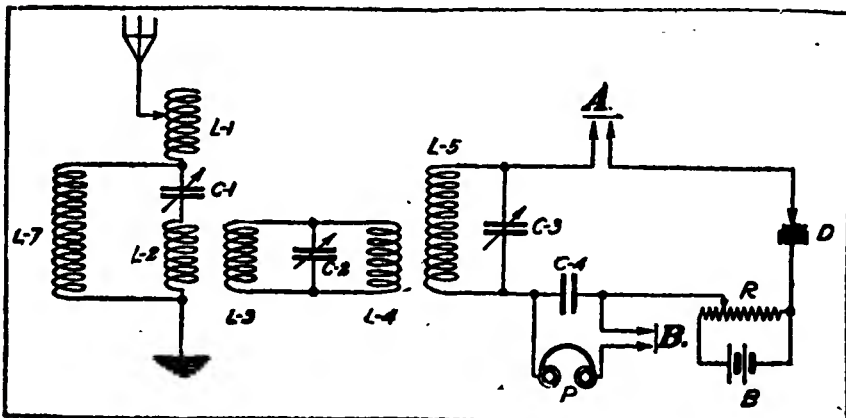

Figure 140.
- (4) Figure 140. To show the "tune" circuits of the type 107a tuner.
The intermediate circuit comprises the two windings (marked L-3, L-4 of figure 140) and a secondary condenser which can be placed in shunt to these two windings or in shunt to the billi condenser which ordinarily is connected across the secondary coil. This is effected by means of the **changeover switch** in the upper part of the drawing marked "stdbi" and "tune."
In figure 140 are shown the complete "tune" circuits of the type 107a tuner, wherein the primary, intermediate, and secondary circuits complete are employed; that is, coil L-2 is placed in inductive relation to L-3, and coil L-4 in inductive relation to L-5.
(1) It is important to note that the type 107a tuner is fitted with four binding posts at the rear from which connections extend to the type S, SH, or I aerial change-over switch. When this switch is placed in the transmitting position, the circuits of the 107a tuner are interrupted at the points A and B (figure 140) thus breaking the circuit to the detector and the head telephones. The contacts of the antenna switch must have careful inspection from time to time, for unless they close the circuits properly, the apparatus will not function. Should these contacts be broken, a permanent jumper must be placed across the binding posts to keep the circuit closed.
(2) The "stdbi" connections are employed when the operator is awaiting a call from one of several stations not accurately tuned to the same wave length. The "tune" connections are employed during periods of excessive interference.
(3) It is essential that the polarity of the detector battery be correct for the maximum strength of signals. This can only be determined by experiment. The connections to the crystal should be reversed and the potentiometer adjusted until the loudest signals are obtained from a given station.
(4) The type 107a tuner was originally designed for use with the Fleming valve, but it is now equipped for use with the carborundum detector solely. Two connections extend out from the base of the tuner immediately under the aerial tuning inductance to permit connection to an external detector such as cerusite.